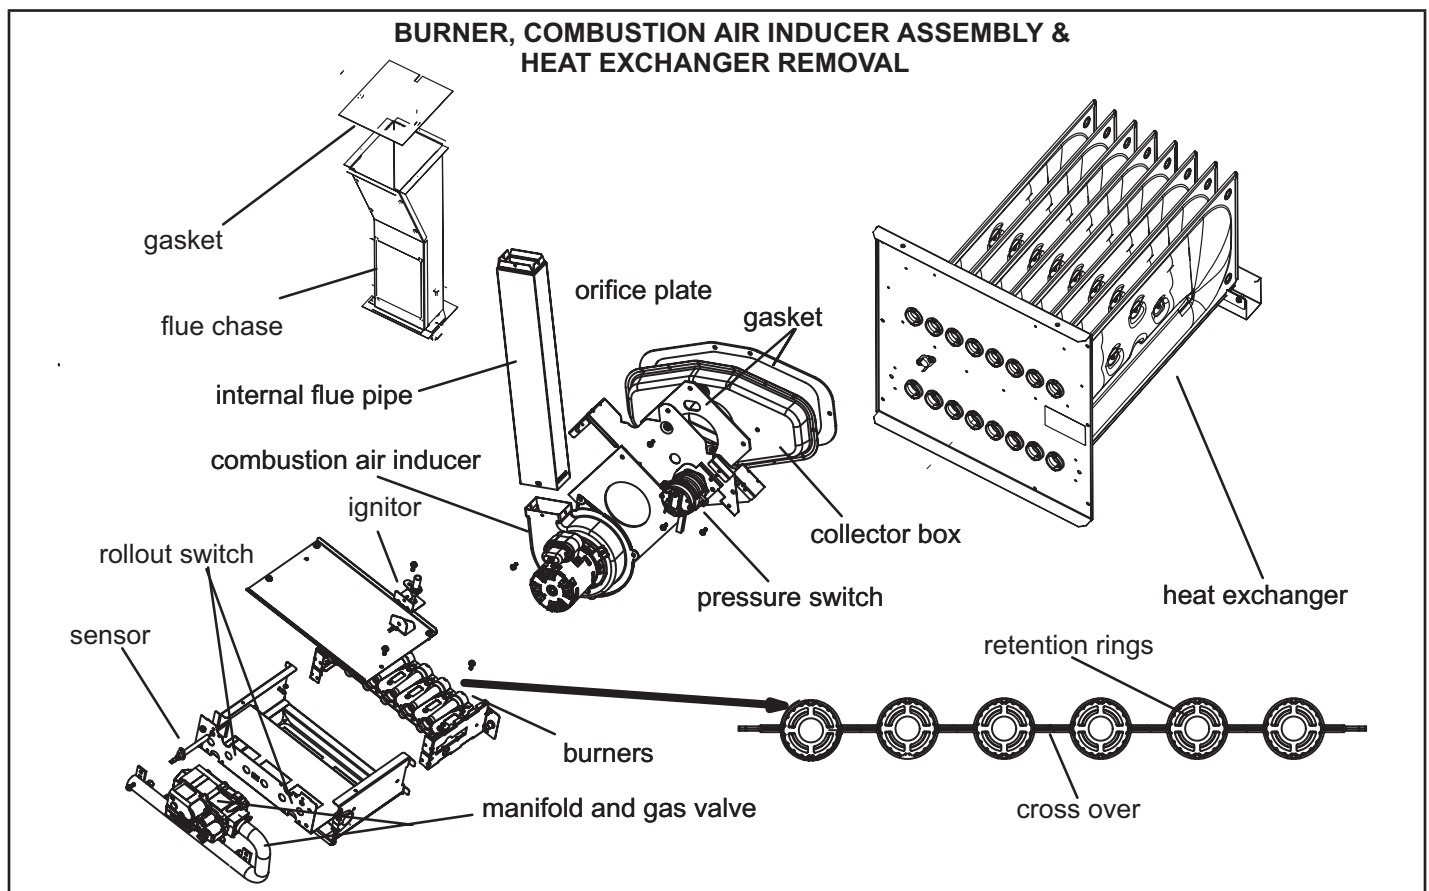

FIGURE 25
- 10 - To clean burners, run a vacuum cleaner with a soft brush attachment over the face of burners. Visually inspect inside the burners and crossovers for any blockage caused by foreign matter. Remove any blockage. FIGURE 25 shows burner detail.